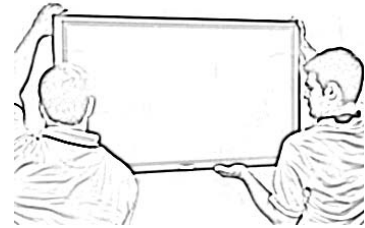

Figure 5
- a. Carefully lift the TV and place arm hooks over and onto top rail of Wall Plate (Figure 5). Let bottom angle downward and toward wall. The Safety Clips on the arms will click as they pass under the bottom lip of the wall plate.